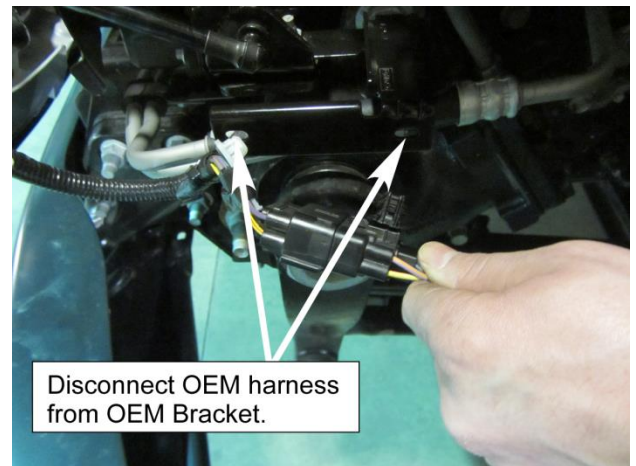

Figure 35. OEM Harness above Steering Gearbox.
4. Disconnect the wire harness from the OEM bracket. See Figure 35.